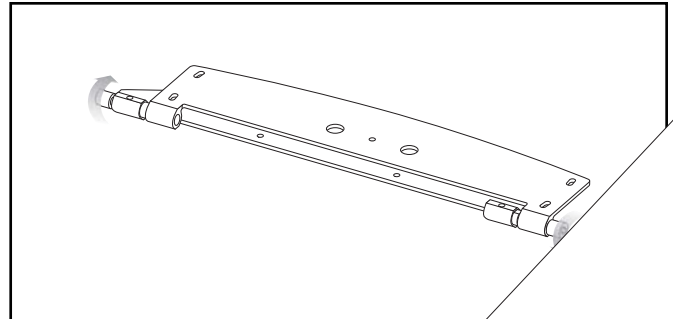

Figure 12. Installing the bracket assembly on the Fresco
- 2 Using a 6mm Allen tool loosen the 2 cap nuts (see figure 12).